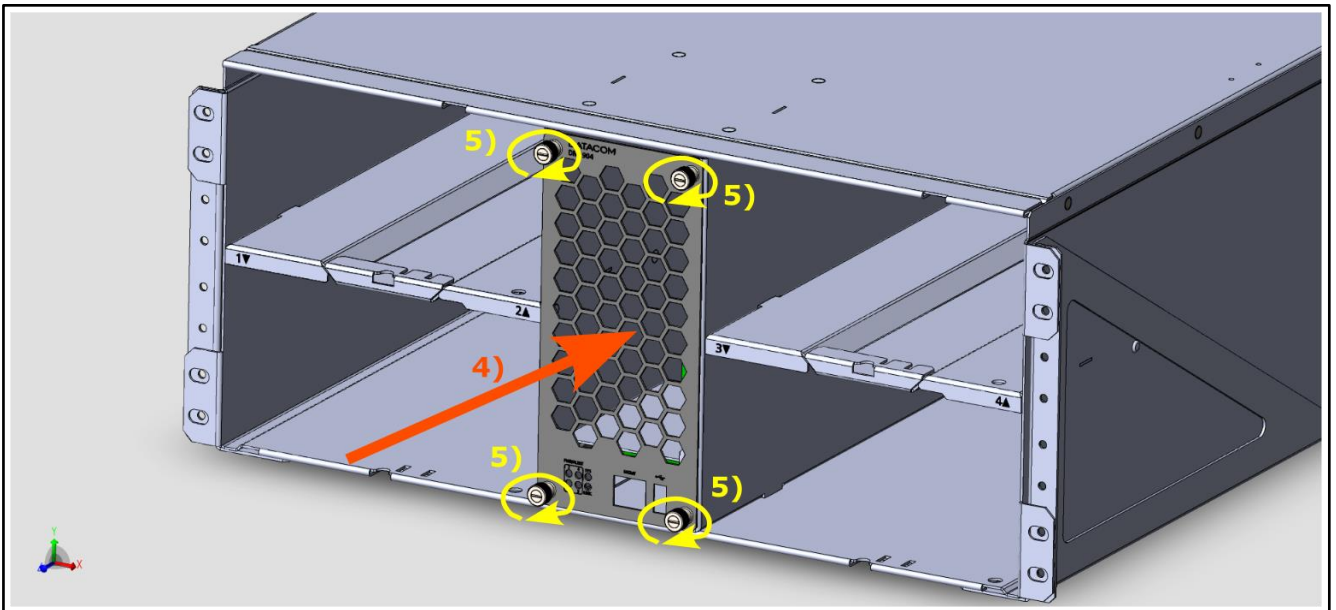

Figure 60: SB installation - inserting the DM1904 front panel
- 4) Position the front panel as shown in Figure 60, aligning the four screws with the fixation holes.